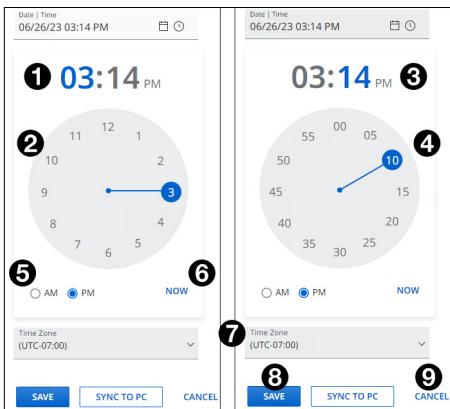

Figure 12. Timepicker hours (left) and minutes (right)
By default, the timepicker opens to select the hour value (see figure 12, left). Either click on the hour in the text display (**1**) and change it to the desired value or select a value from the clock face (**2**).
5. Click inside the minutes value in the text display (**3**). The clockface changes to minutes (see figure 12, right).
6. Either click on the minutes in the text display (3) and change it to the desired value or select a value from the clock face (**4**).